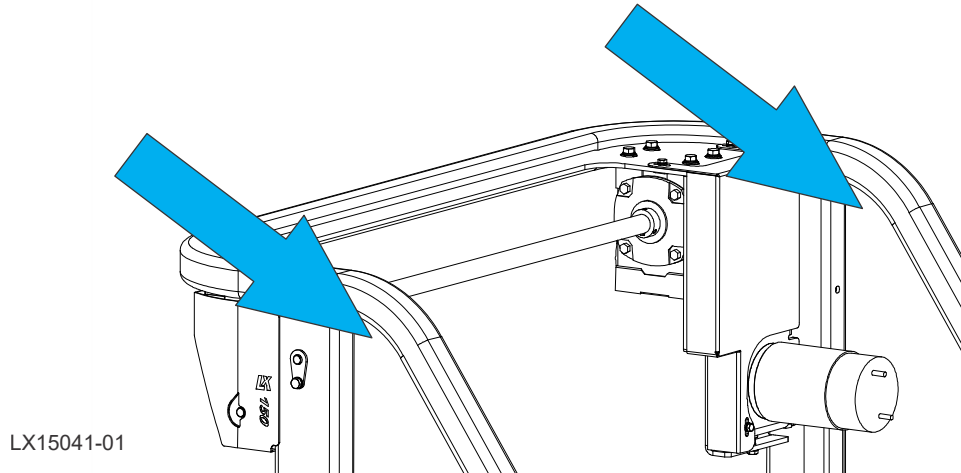

FIG. 3-4
3. Securely attach lifting straps to the top of the mast as shown in Figure 3-4.
See Figure 3-4.